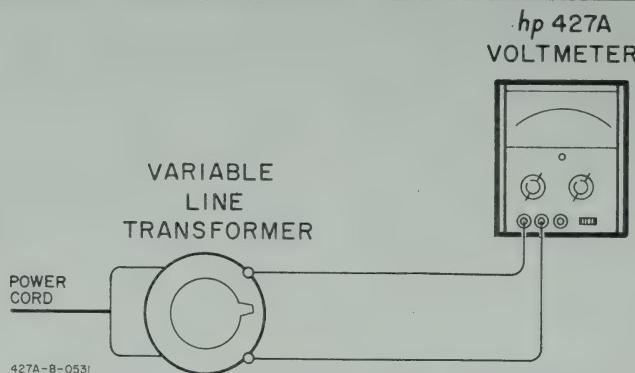

Figure 5-4. AC Superimposed Noise Check
5-19. A peak ac superimposed noise signal 100 times the full scale input should affect the Model 427A reading less than 1%. Figure 5-4 shows the test setup using
Paragraphs 5-20 to 5-22 and Figure 5-4
- Switch the FUNCTION to ACV and the RANGE to 10. Connect the variable line transformer and the Model 427A as shown in Figure 5-4.